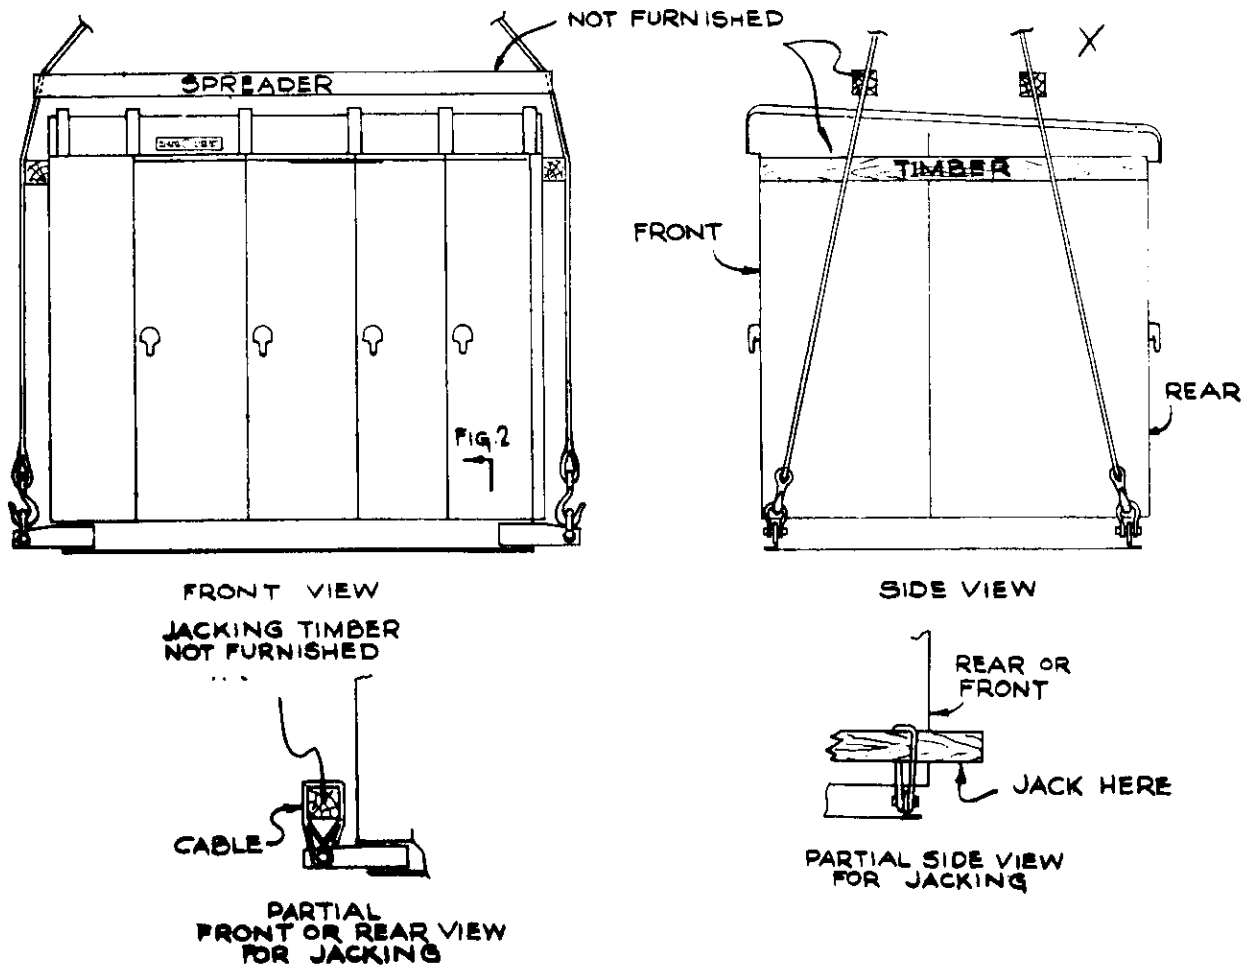

Fig. 10 (0673D0500-003-3) Methods of Handling Outdoor Equipment.
Methods of handling outdoor switchgear, shown in Fig. 10, are much the same as for indoor equipments except that lifting plates are provided at the base of the structure. The lifting plates should be removed after the equipment is permanently anchored, so that passageway at the ends of the equipment will not be obstructed.
2. The switchgear packages should be placed on its foundation with the aid of crane or jacks as shown in Fig. 9 for indoor equipment and Fig. 10 for outdoor equipment.